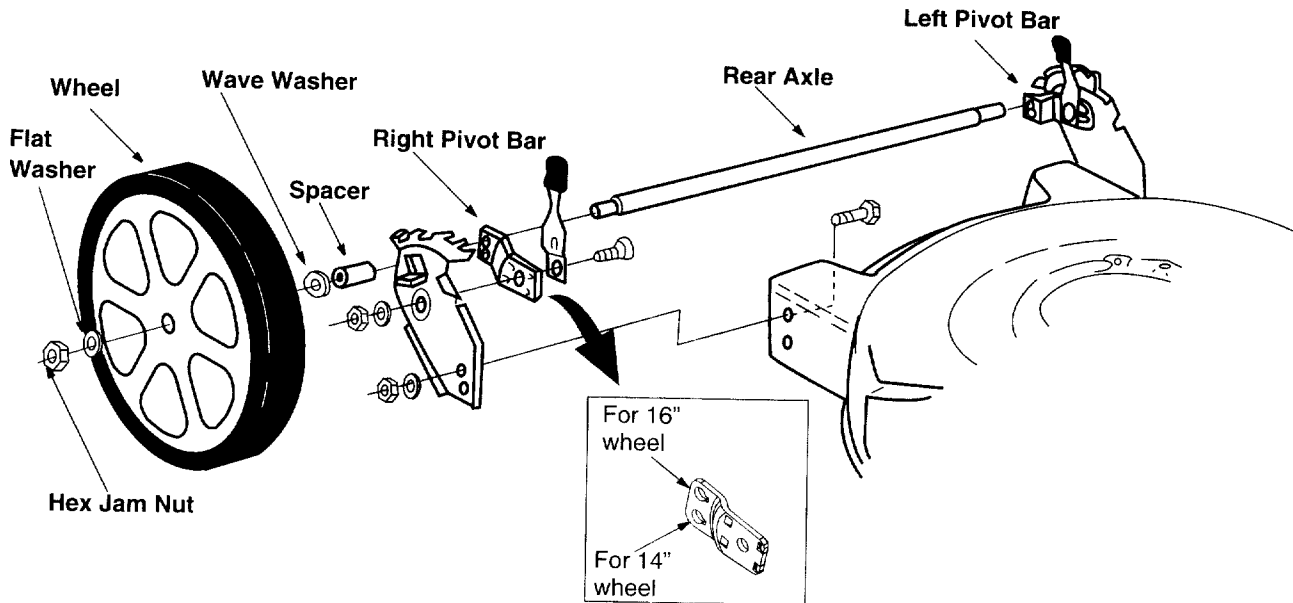

FIGURE 6
**IMPORTANT:** There are two holes on the pivot bar. You will have to attach the axle shaft through the top hole of the right pivot bar when installing 16" diameter wheels, and through the bottom hole when installing 14" diameter wheels. Use the same corresponding holes on the left pivot bar. See Figure 6 inset.
- Rotate the axle shaft until first tab on the right side of the axle shaft clears the hole in the right pivot bar. Rotate further until second tab on the right side of the axle shaft locks into the hole in the same pivot bar. The tab on the left side of the axle shaft should hit on the surface of the left pivot bar. See Figure 6.
- Place wheel assembly on end of axle. Secure with one flat washer and one hex jam nut. See Figure 6. Tighten securely.